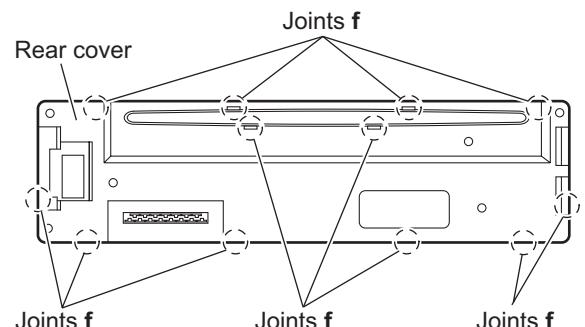

Fig.9
(2) Release the twelve joints **f** and remove the rear cover. (See Fig.9.)